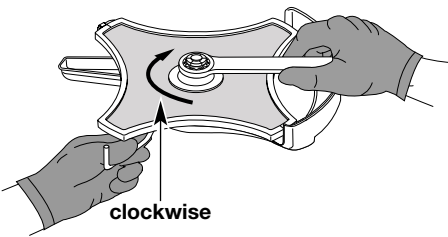

Fig. 16
3. While holding the locking rod, loosen the nut on the blade by turning it clockwise with a 5/8 inch closed-end or socket wrench (Fig. 16).